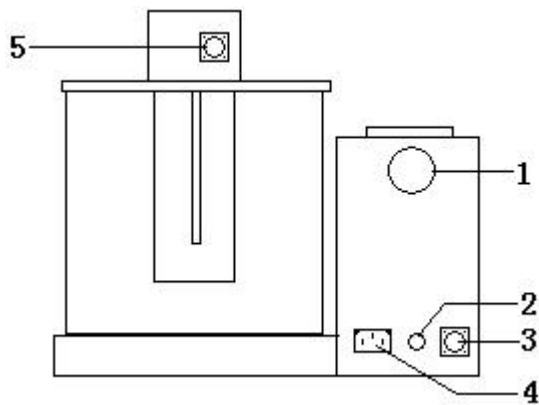

Figure 2
- (1) the constant temperature water bath cap assembly
- (2) temperature sensor
- (3) water bath
- (4) printer
- (5) liquid crystal display
- (6) power switch
- 2 view (Figure 2).